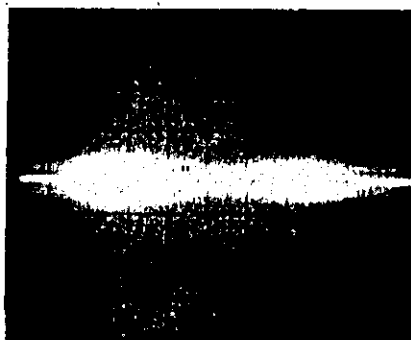
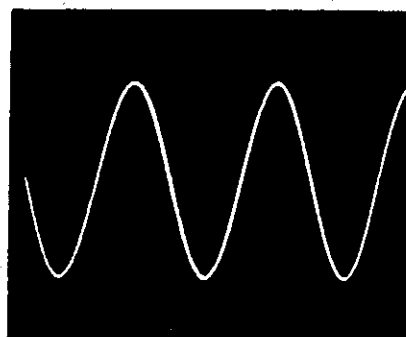

Figure 3-5. Single-shot trace bloom caused by INTENSITY and/or PERSISTENCE set too high.
Figure 3-6. Single-shot display with INTENSITY and PERSISTENCE set the same as Figure 3-5.
- f. **BLOOM** — A visible, non-symmetrical expansion of a display written on the CRT screen, Figure 3-5.
Trace blooming, Figure 3-5, is the best indicator of excessive INTENSITY which can damage the CRT. However, blooming does not occur in the CONV mode. Therefore, do not increase intensity when in CONV mode. Always be sure to repeat above procedure each time sweep speed or input signals change.
3-28. To write with persistence or store a single-shot phenomena, trial setting of INTENSITY is the best approach. The amplitude of the phenomena and the sweep-time required to display it will affect the persistence. For example, with maximum PERSISTENCE and some settings of INTENSITY, a single-shot straight-line trace may bloom as shown in Figure 3-5, while a single-shot signal with amplitude variations of several divisions may not cause blooms (Figure 3-6). To determine the best INTENSITY setting, connect a signal